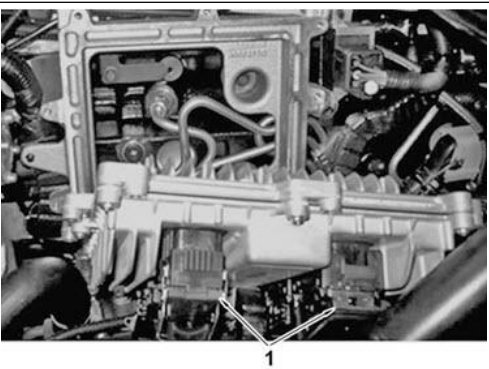

**Figure 4 - ECM Bolts**
- Remove 8 bolts that secure the ECM to the bracket (Figure 4, Item 1).